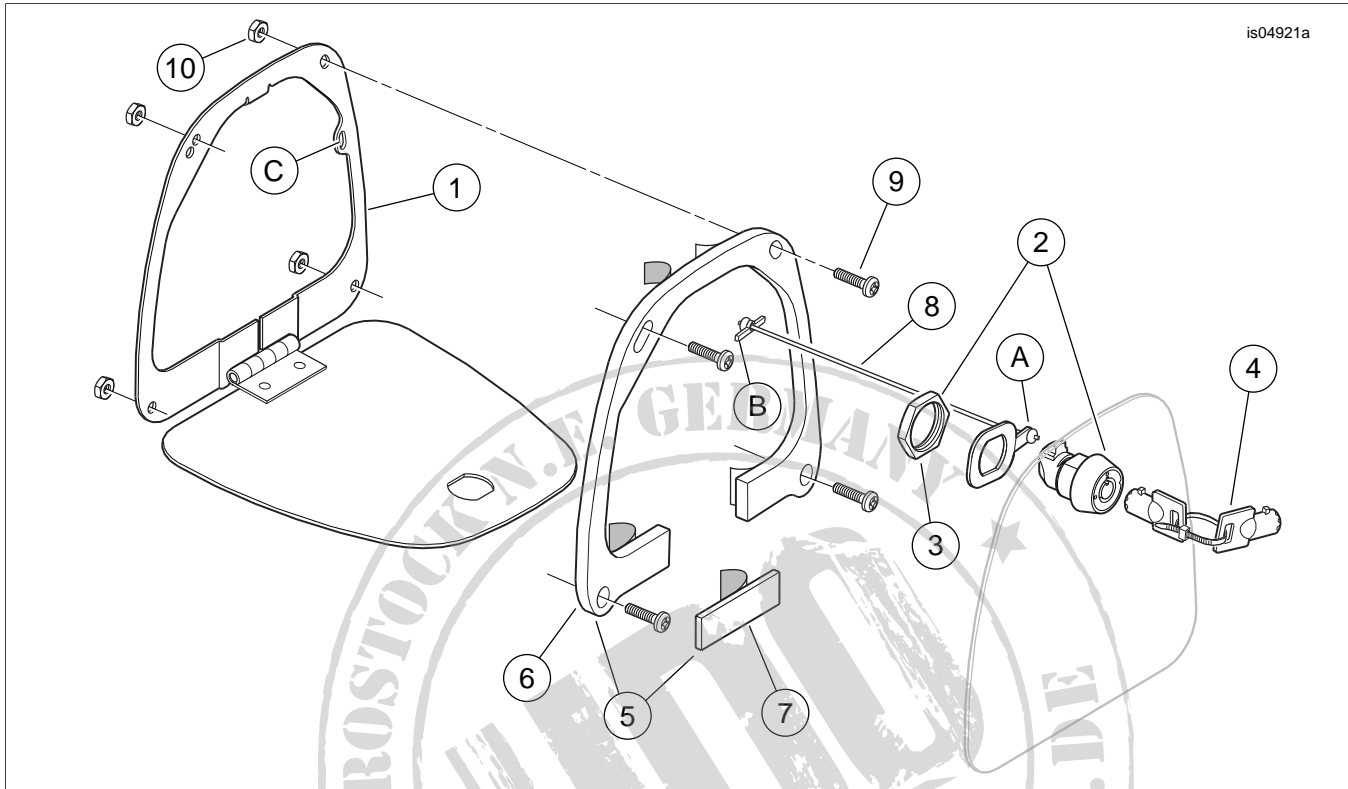

Figure 1. Service Parts Illustration, Locking Glove Box Door Kit
See Figure 1 and Table 1.
1. Unsnap the original equipment (O.E.) left-side glove box door, and unfasten the tether by bringing the aglet end (see Figure 1, B) out through the retaining hole.